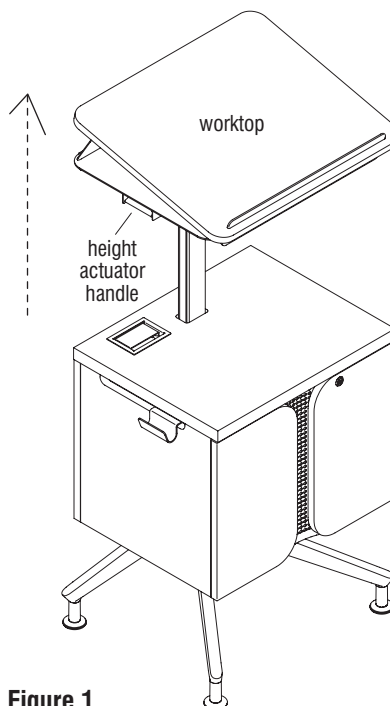

Figure 1
1. With the lectern in the lowered position, locate and fully depress the height actuator handle and the lectern should automatically raise. Let go of the actuator handle after the worktop raises a few inches (Figure 1). Fully depress the height actuator handle again and press down on the lectern worktop, lowering it a few inches, then release the handle and the worktop should stay. Without activating the handle,